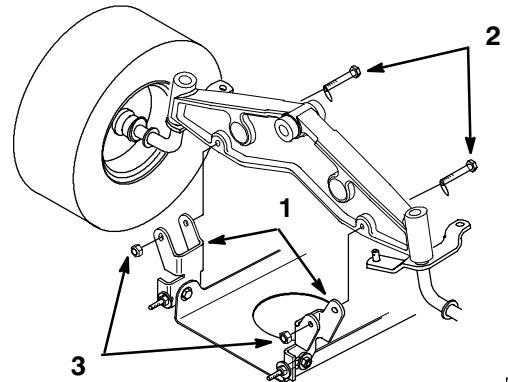

Figure 38
9. Remove the bolts and lock nuts and pull the two mower pivot mount brackets down from the front axle (Fig. 38).